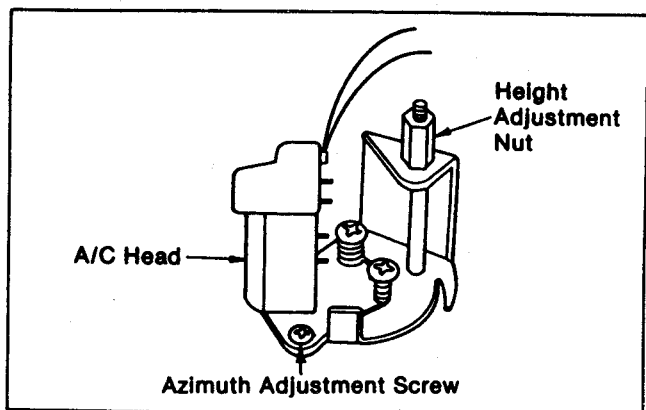

Fig. T6
- Adjust the Azimuth Adjustment Screw on the A/C Head Base as shown in Fig.T6 so that output level is at a maximum.